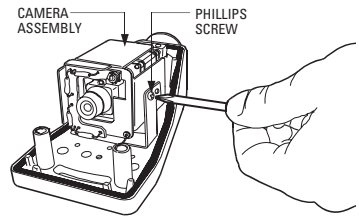

Figure 1. Removing Camera Module
2. Remove the camera module from the base: remove the Phillips screw on each side of the camera assembly and unplug the electrical connectors. Refer to Figure 1.